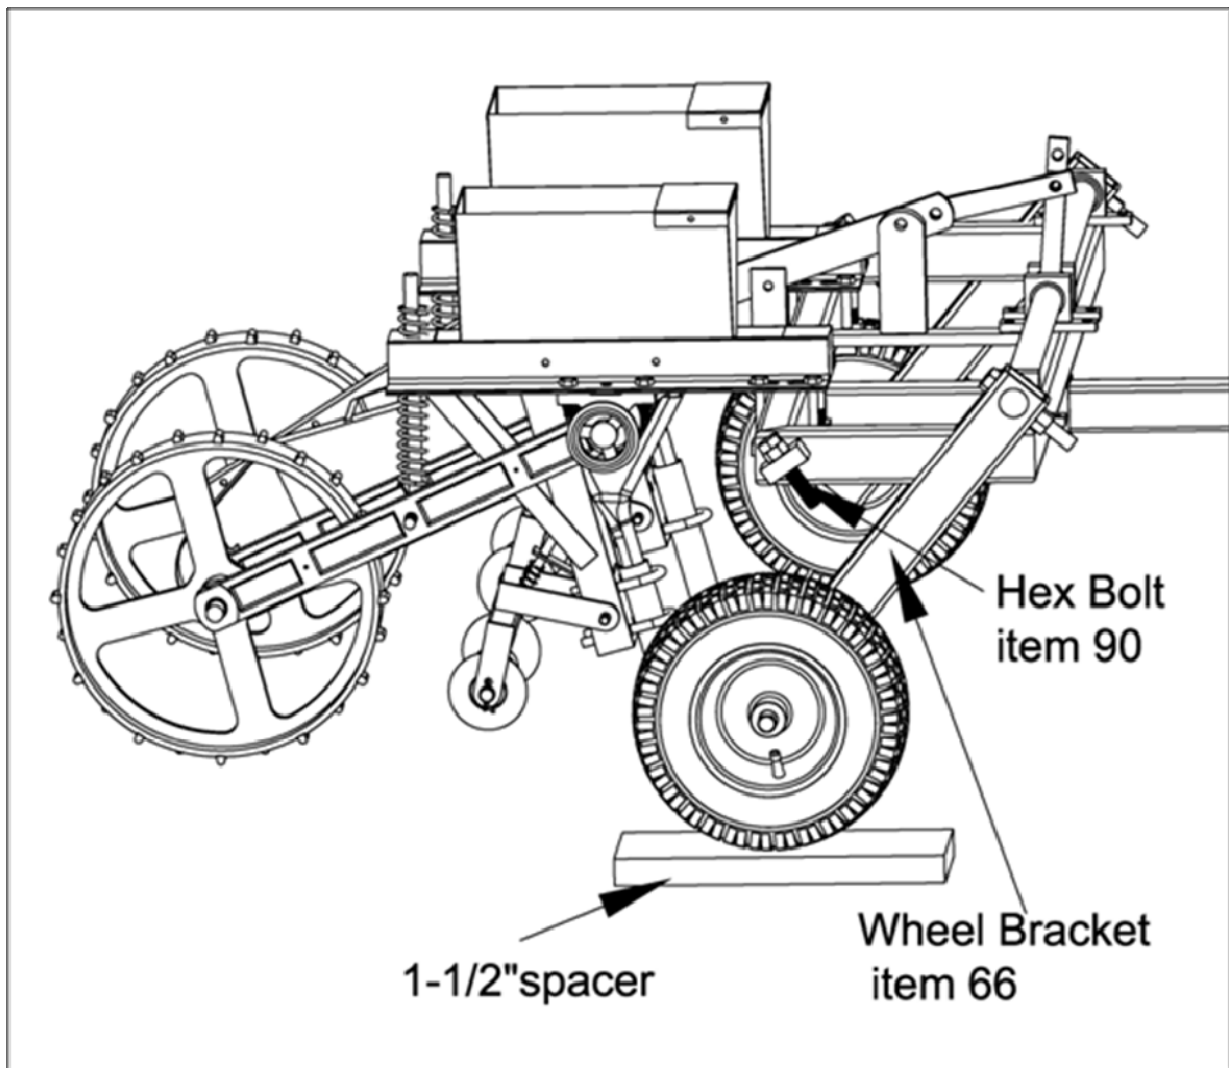

Figure 12
1. Place the planter on a flat level surface. Lower the planter until the two coulter assemblies item 23, rest on the flat surface. Be certain that main frame and tongue are level.
3. Back out hex bolt, item 90, until the wheel assembly can be raised off the flat surface. Place a 1-1/2" spacer under wheel. See figure 12.
4. Turn the hex bolt, item 90, back in until contacts item 66, wheel bracket. Continue tightening hex bolt until coulter assembly starts to lift off flat surface. Tighten jam nut, item 91. Repeat for opposite side. The planter is now set for 1-1/2" depth.